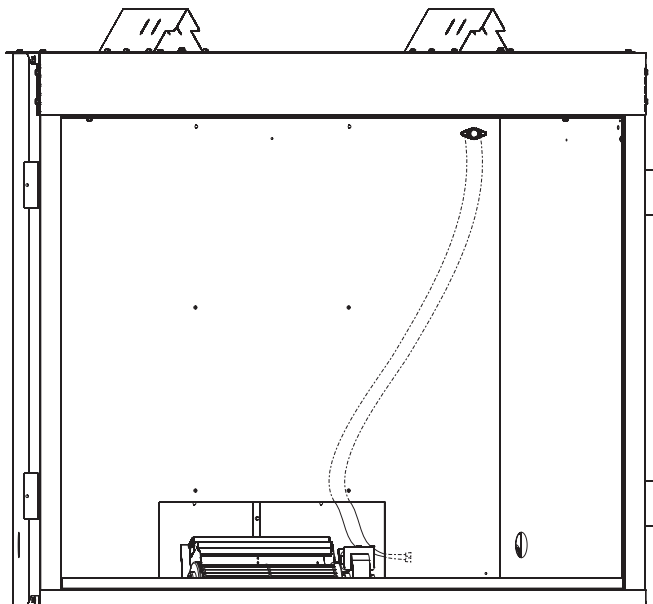

Figure 16
6. Next, find the fan control switch and wire assembly. Feed the wires through the hole at the top of the firebox, and secure the fan control switch with (2) #6 screws provided. **See Figure 16.**
7. The fan control wires will slide down between the firebox and outer wrap near the blower assembly. **See Figure 16.**